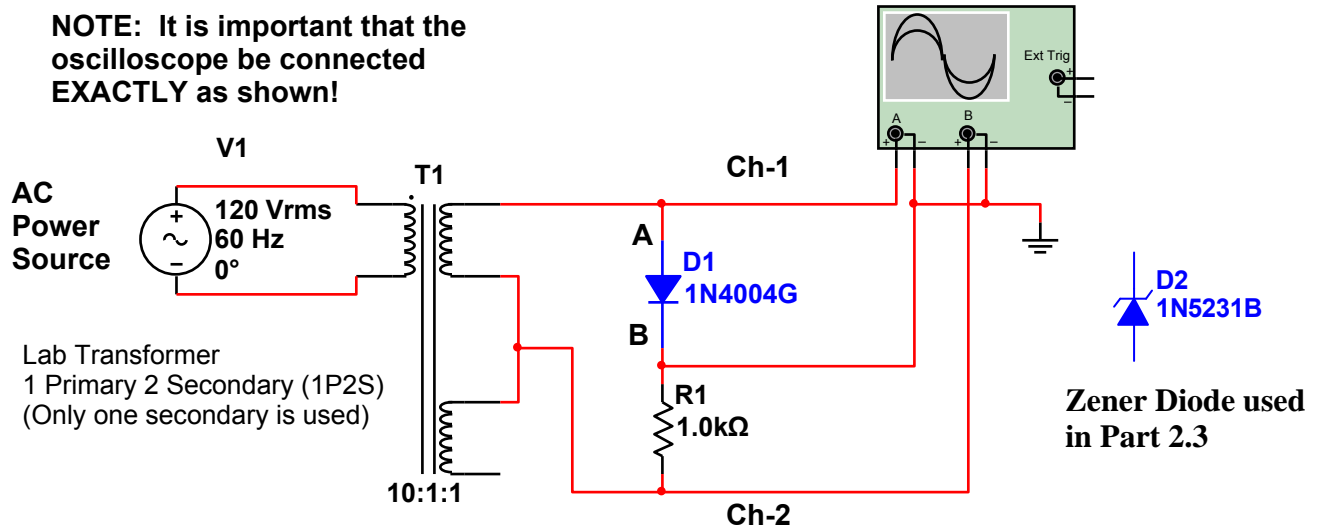

Figure 1-3
- 2.1 Set up the circuit in Figure 1-3 using the 12 V transformer that you will be given in the lab. The transformer needs to be plugged into on your bench and turned on. A light on the switch should indicate that power is on.
- 2.3 In the circuit of Figure 1-3, remove the 1N4004 diode and replace it with the 1N5231B, Zener diode. Connect the cathode to point “A” and the anode to point “B”. Turn on the transformer switch and repeat the above steps in Part 2.2 above, making oscilloscope adjustments if necessary to obtain an appropriate Zener characteristic curve. Record this waveform, then turn off the transformer switch.